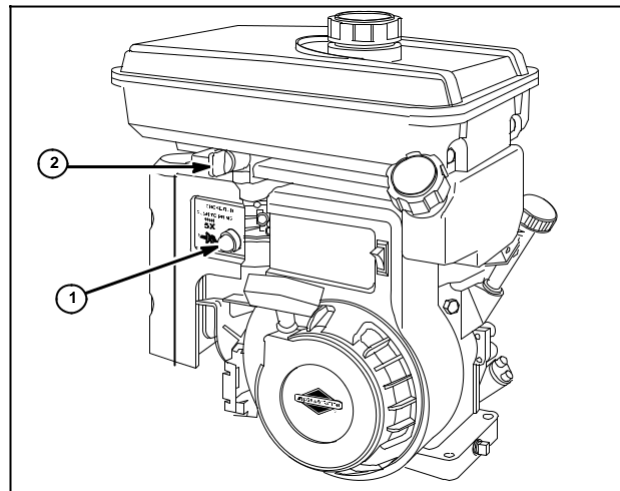

Fig. 159
Fig. 159 – To start Model Series 9K4000, 135400, 13K400 and 19K400, set the choke to the start position. Prime the engine with petrol by depressing the primer bulb (1) five times. Start and run the engine. Open the kerosene shut-off valve (2) to continue operation.